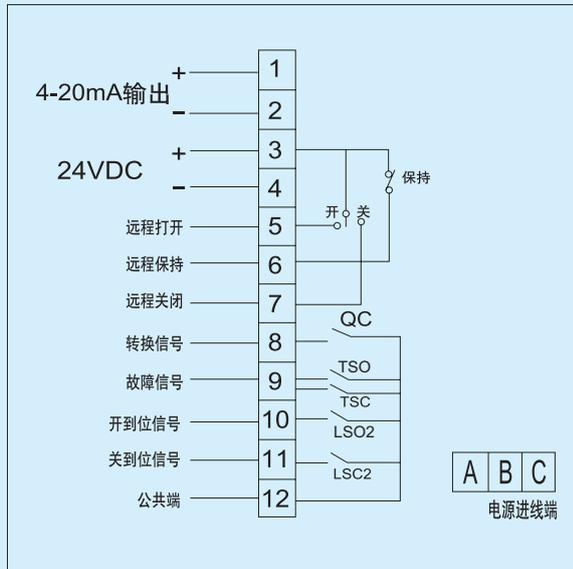

图16 / Figure 16
5.9.3 整体型、隔爆整体型、整体调节型、隔爆整体调节型端子接线图分别见图16、17、18和19
Refer to Figure 16,17,18,19 for the terminal connection diagram of Integral type, integral explosion-proof type, integral regulation type, integral regulation explosion-proof type separately